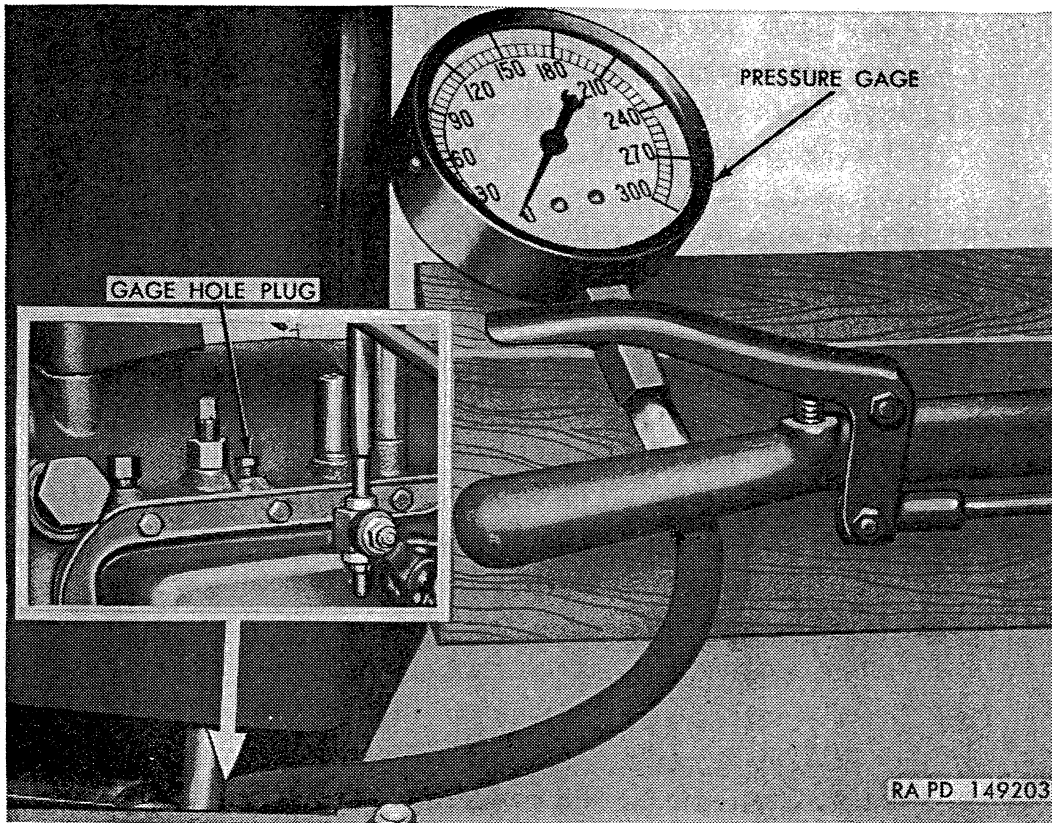
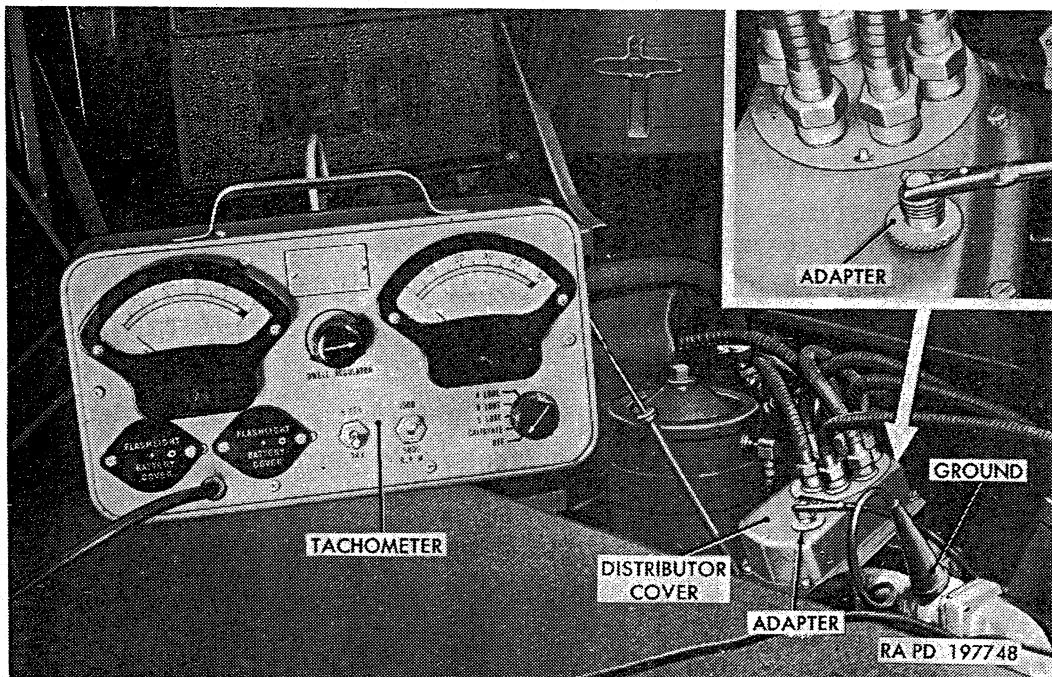

Figure 189. Use of gage B7950330 when making oil pressure test.
Figure 190. Using electric tachometer to check engine rpm.
- (1) Lift floor plate to gain access to pressure takeoff pipe plug, located on top of transmission case between front and rear band adjusting screws; then remove pressure takeoff pipe plug.
- (2) Install adapter of pressure checking gage B7950330 (fig. 189) in hole in transmission case from which pipe plug was removed, leaving gage seated on floor of truck cab.
- (3) Remove access screw from top of engine distributor cover; then thread adapter (fig. 190) into hole in cover from which access screw was removed.
- (4) Connect electric tachometer to adapter and ground (fig. 190).
- (5) Start engine and run for several minutes until engine and transmission are warmed to operating temperature.
- (6) With truck standing and with parking and foot brakes applied, accelerate engine to 1,000 rpm reading on tachometer.
- (7) Move transmission control lever into all four HIGH RANGE positions (N, F-1, F-2, and R), and into N (neutral) in LOW RANGE position.
- (8) With transmission oil warm, oil pressure should be 95 to 110 psi in all positions except reverse, and 180 to 220 psi in reverse.
- (9) Electric tachometer (fig. 190) and oil pressure checking gage B7950330 (fig. 189) should remain connected during road test (par. 199) and operating oil pressure test (b below).
*b. Truck Moving Forward.* Use electric tachometer and oil pressure checking gage B7950330 (fig. 189) during road test (par. 199) and take oil pressure reading after each upshift. Pressure will be less as instant shift is made but should return to original reading after shift is completed. If pressure loss or slippage is noted, check symptoms and causes in table VI.
*c. Reduction Unit Oil Pump Pressure Test.* During road test (par. 199), make reduction unit oil pump pressure test as in (1), (2), and (3) below.
- (1) With pressure checking gage B7950330 (fig. 189) installed, drive truck forward at speed of approximately 30 mph; then move transmission control lever into N (neutral) HIGH RANGE position.
- (2) Turn off ignition switch, and note reading on pressure checking gage with vehicle coasting. Pressure should be between 95 and 110 psi.
- (3) If pressure is lower than 95 psi, probable cause is faulty reduction unit oil pump. Notify ordnance maintenance personnel.